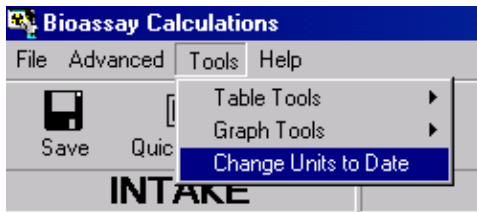

Figure 4.10. Toggle control to change the **Time Units**.
- **Change Units to Date** - toggle instantly between **Time Units** of **Date** or **Time (d)** throughout the program (all three screens) - see Figure 4.10.